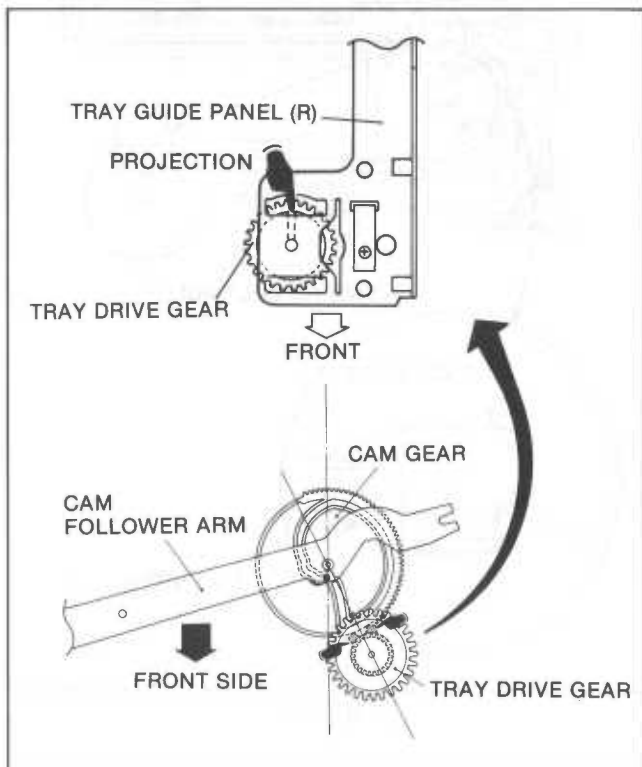

Fig. R12
- This should be installed first, set the Tray Guide Plate (R) to Rack Plate (R) so that the Projection (Q) and (R) of Tray Guide Plate (R) meets (K) and (H) of Rack Plate (R). Turn the Tray Drive Gear clockwise so that the projection of Tray Drive Gear set to center as shown in Fig. R12. Install the hole of the Shutter to projection (A) of the Tray Guide Plate (L). Then install the Tray Guide Plate (R) and Rack Plate (R) so that the projection (O) and (P) of Tray Guide Plate (R) meets Hole (M) and (N) of the Frame.